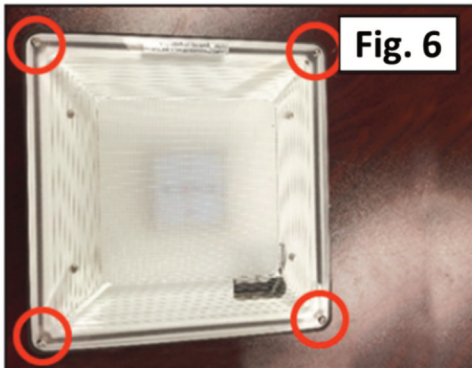

Fig. 6
1. Remove lens by unfastening 4 screws with Allen key. (Fig. 6)